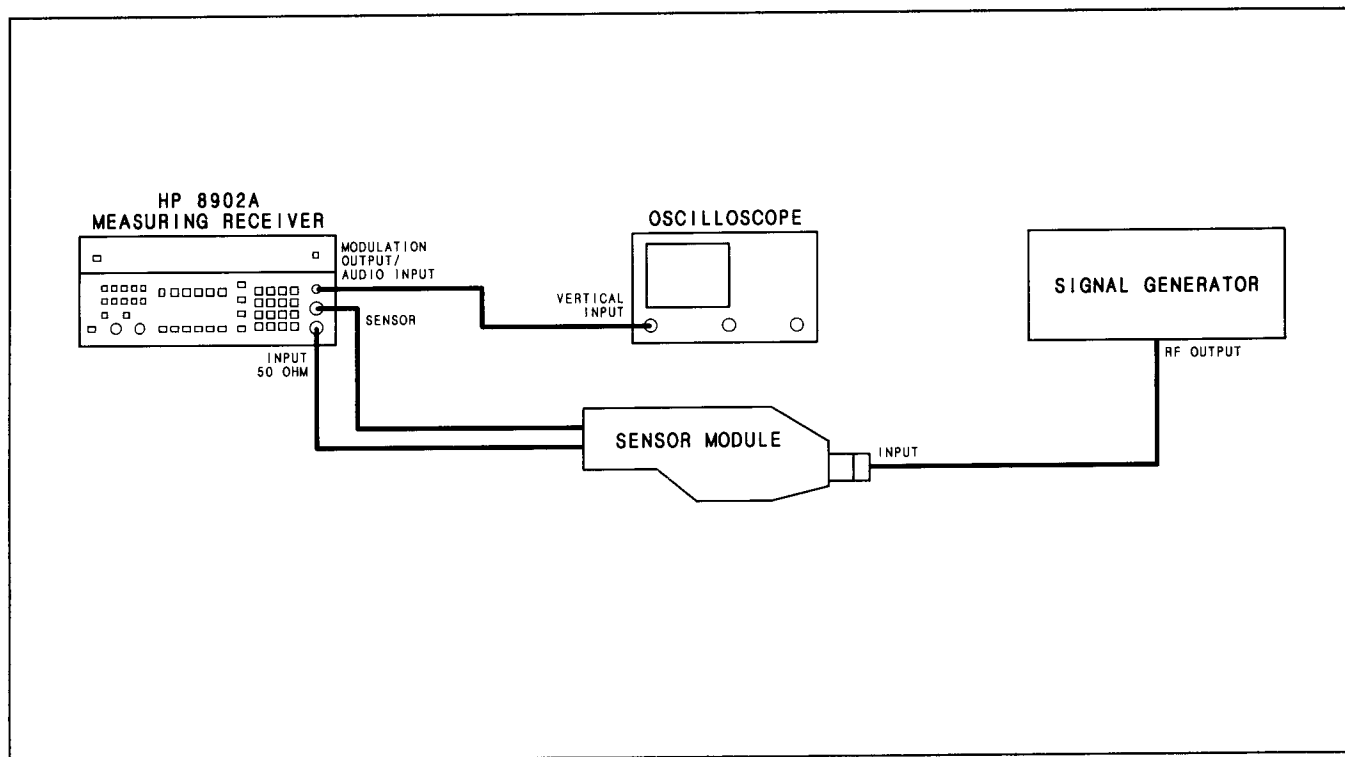

Figure 3–7. RF Power Check Setup
9. Connect the input of the sensor module to the RF output of the signal generator. Connect the MODULATION OUTPUT/AUDIO INPUT to the vertical input of the oscilloscope. (See Figure 3–7.)